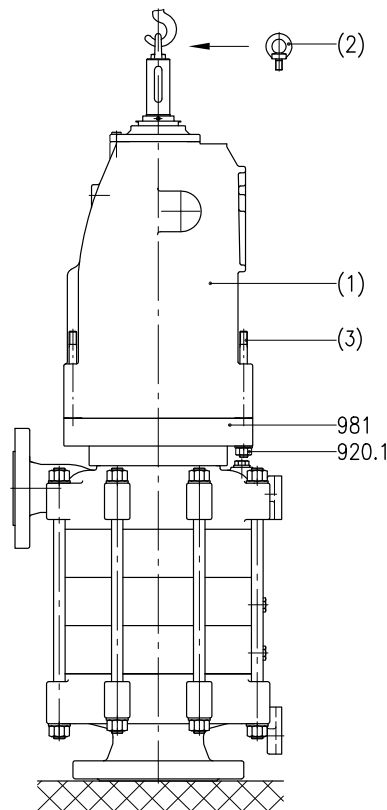

Fig. 14: disassembly of bearing bracket
5. Pull off the complete drive unit (1) by crane. Use of a ring screw (2) – see chapter 7.4.3 - is recommended (Figure 14)